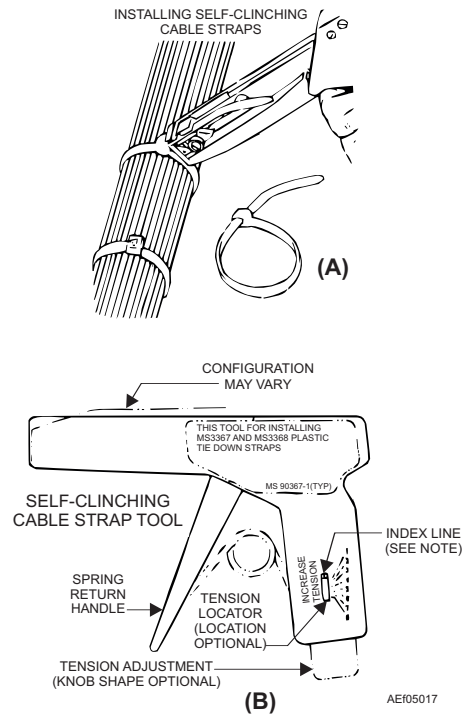

Figure 5-17.—Installing self-clinching straps.
**USING SELF-CLINCHING CABLE STRAPS.**—Self-clinching cable straps are adjustable, lightweight, flat nylon strips. See figure 5-17, view A. They have molded ribs or serrations on the inside surface to grip the wire. You may use them instead of individual cord ties for quickly securing wire groups or bundles. The straps are of two types—a plain cable strap and one that has a flat surface for identification of cables.
Installing self-clinching cable straps is done with a military standard hand tool as shown in figure 5-17, view B. Follow the manufacturer's instructions when using the tool.